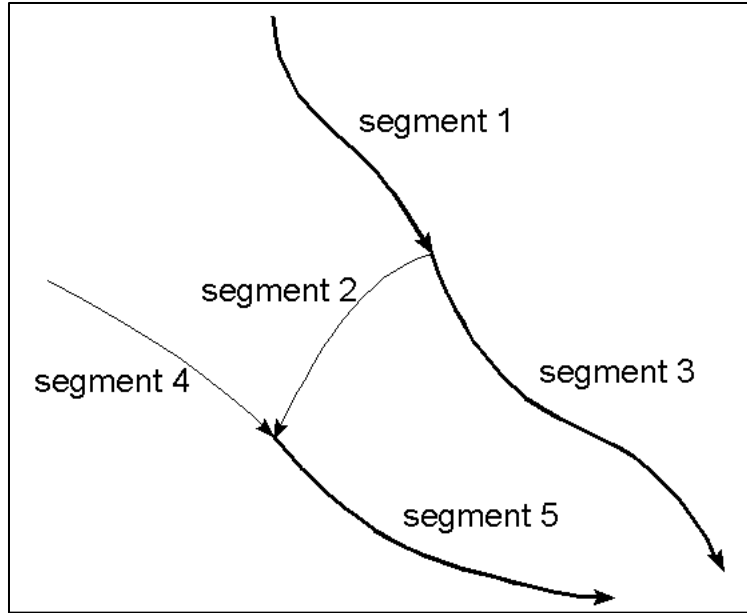

Figure 89. The stream system defined by the table in Figure 88
- **Structure**: Click this button to open the Stream Structure dialog box (Figure 88) that defines the structure of the stream system as shown in Figure 89. The table of dialog box indicates that segment 2 is diverted from segment 1, segment 1 is a tributary segment of segment 3, and segments 2 and 4 are tributary segments of segment 5.